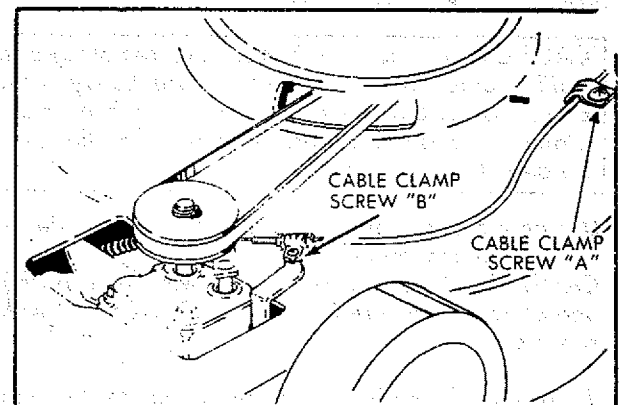

FIG. 25
2. Loosen cable clamp screws "A" & "B" (See Fig. 25).
11. Tighten screw "A" (Fig. 25).